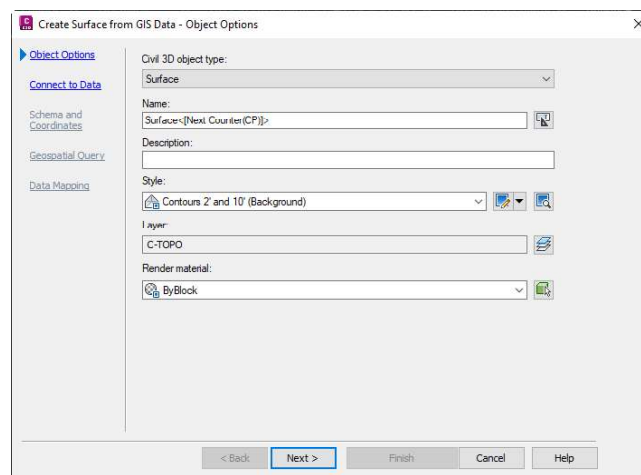

Figure 3-78 The **Object Options** page of the **Create Surface from GIS Data** wizard
- Choose the **Create Surface from GIS Data** tool from **Home > Create Ground Data > Surfaces** drop-down; the **Object Options** page of the **Create Surface from GIS Data** wizard is displayed, as shown in Figure 3-78.